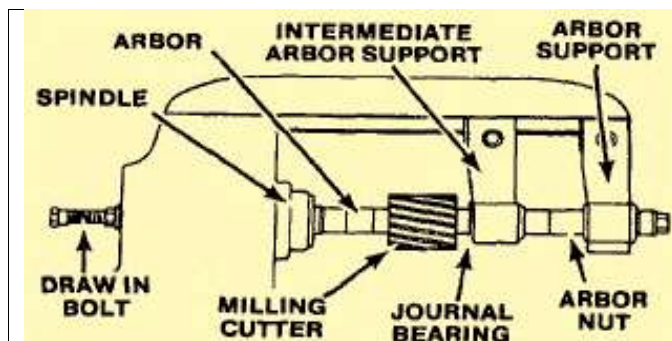

Figure 8-12. Arbor installation.
**Arbor Installation:** The end of the arbor, opposite the taper, has one or more supports depending on the length of the arbor and the degree of rigidity required. The end may be supported by a lathe center bearing against the arbor nut or by a bearing surface of the arbor fitting inside a bushing of the arbor support. The arbor may also be firmly supported as it turns in the arbor support bearing suspended from the over-arm. (Figure 8-12).